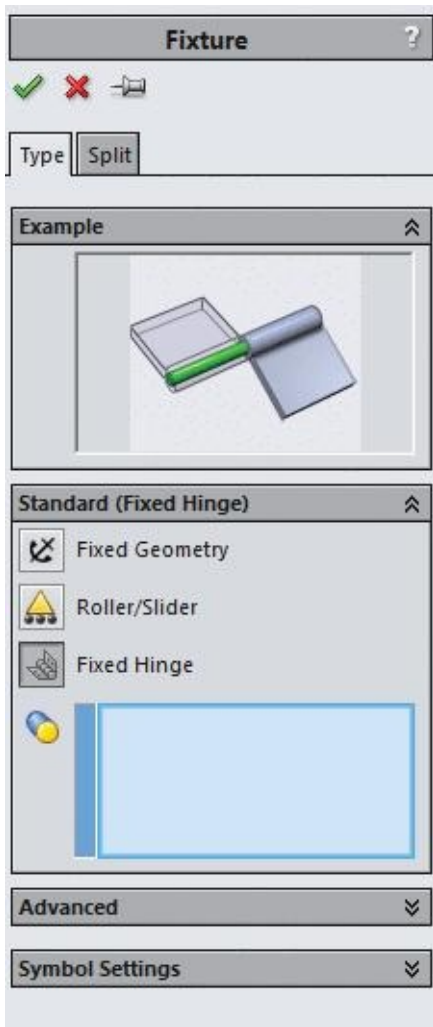

Figure-20. Fixture PropertyManager for fixed hinge fixture
- Click on the **Fixed Hinge** tool from the **Fixtures Advisor** drop-down. The **Fixture PropertyManager** will be displayed with the **Fixed Hinge** button selected; refer to Figure-20.